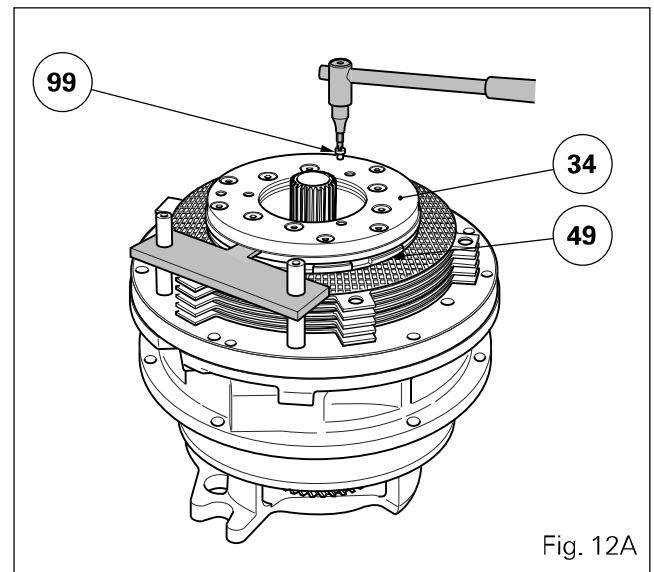

Fig. 12A
66. Immobilise planet carrier (49) with tool ref. 3378240M1 (see fig. 12A and § F).